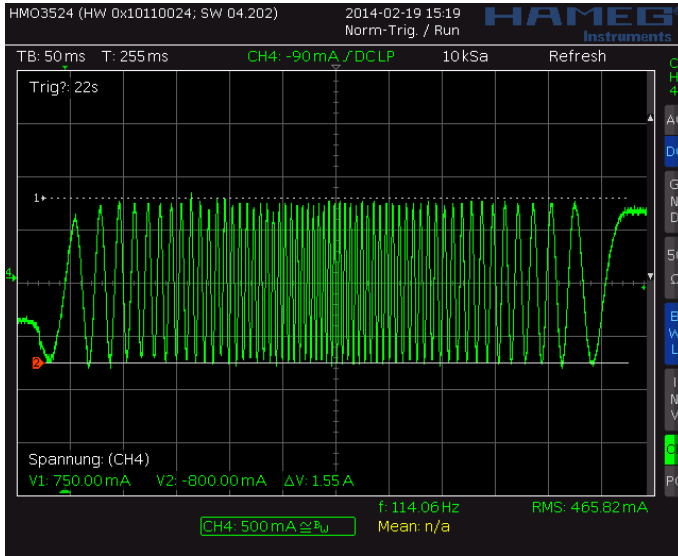
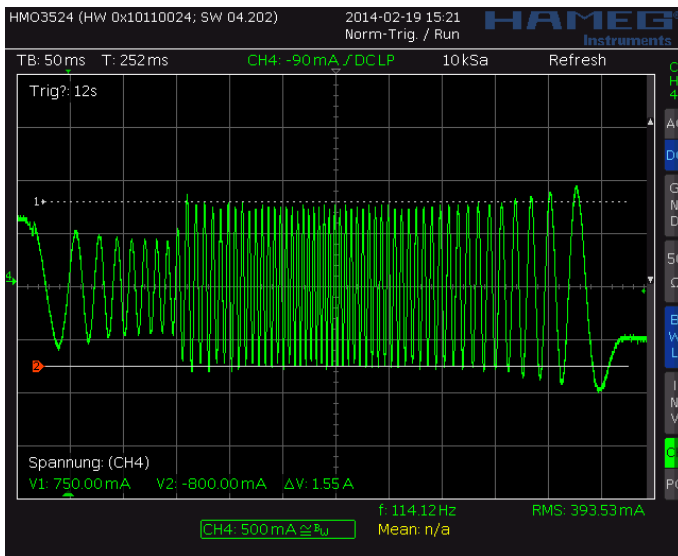
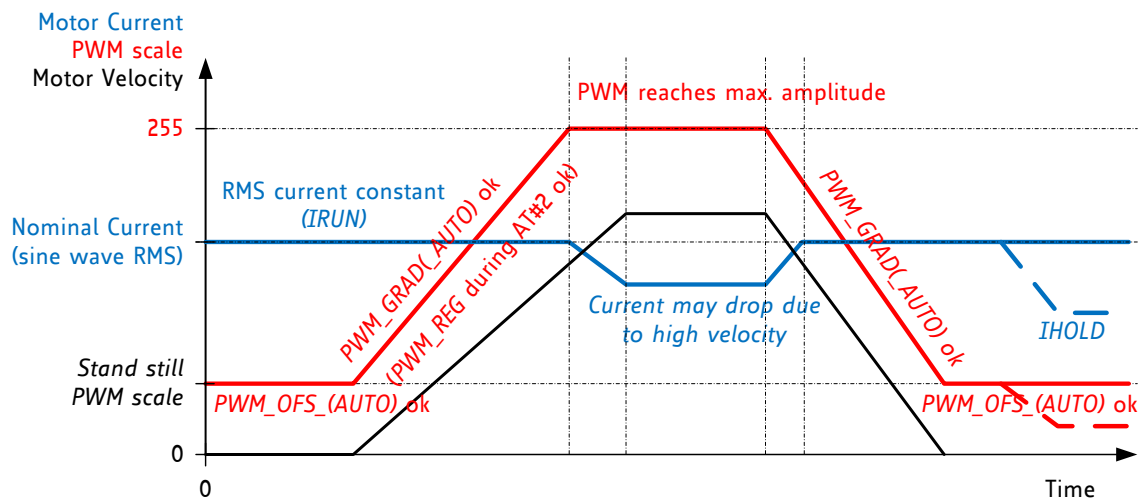

Figure 6.3 Scope shot: good setting for PWM\_REG
Figure 6.4 Scope shot: too small setting for PWM\_REG during AT#2
Figure 6.5 Successfully determined PWM\_GRAD(AUTO) and PWM\_OFs(AUTO)
In StealthChop voltage PWM mode, the autoscaling function ( $pwm\_autoscale = 1$ ,  $pwm\_autograd = 1$ ) regulates the motor current to the desired current setting. Automatic scaling is used as part of the automatic tuning process (AT), and for subsequent tracking of changes within the motor parameters. The driver measures the motor current during the chopper on time and uses a proportional regulator to regulate  $PWM\_SCALE\_AUTO$  in order match the motor current to the target current.  $PWM\_REG$  is the proportionality coefficient for this regulator. Basically, the proportionality coefficient should be as small as possible to get a stable and soft regulation behavior, but it must be large enough to allow the driver to quickly react to changes caused by variation of the motor target current (e.g., change of VREF). During initial tuning step AT#2,  $PWM\_REG$  also compensates for the change of motor velocity. Therefore, a high acceleration during AT#2 will require a higher setting of  $PWM\_REG$ . With careful selection of homing velocity and acceleration, a minimum setting of the regulation gradient often is sufficient ( $PWM\_REG=1$ ).  $PWM\_REG$  setting should be optimized for the fastest required acceleration and deceleration ramp (compare Figure 6.3 and Figure 6.4). The quality of the setting  $PWM\_REG$  in phase AT#2 and the finished automatic tuning procedure (or non-automatic settings for  $PWM\_OFS$  and  $PWM\_GRAD$ ) can be examined when monitoring motor current during an acceleration phase Figure 6.5.